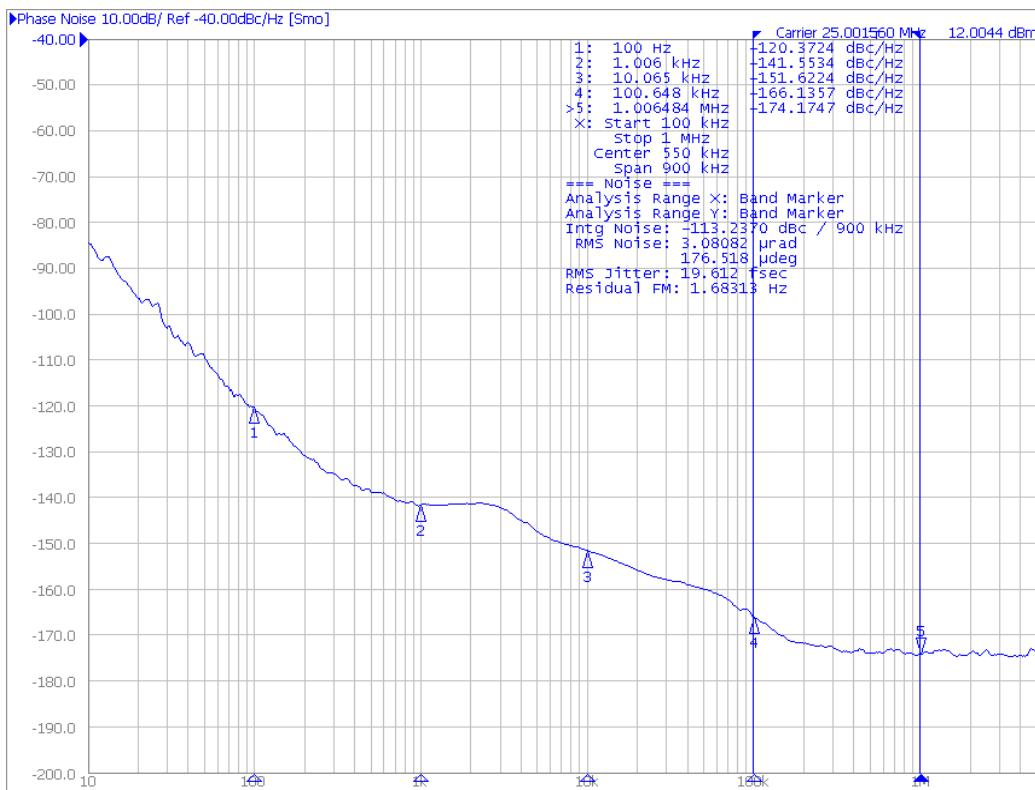

Figure 5. Typical Phase Noise Plot of the NB3H83905C Operating at 25 MHz $V_{CC} = V_{CCO} = 3.3$ V
4. Parallel terminated 50 Ω to $V_{DDO}/2$ (see Figure 5).